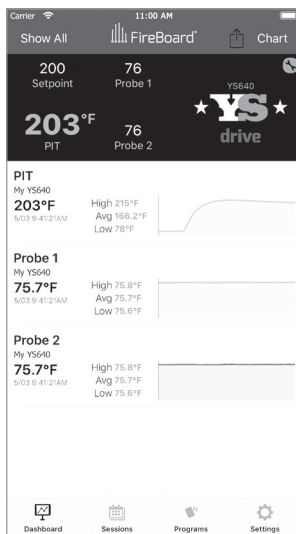

FIG 36
- You can choose between two visualizations of the running temperature data: a basic chart, and a detailed chart. You can toggle between the two by tapping on the word “Chart” or “Detail,” respectively, in the title bar area of the app (**FIG 36, 37**).